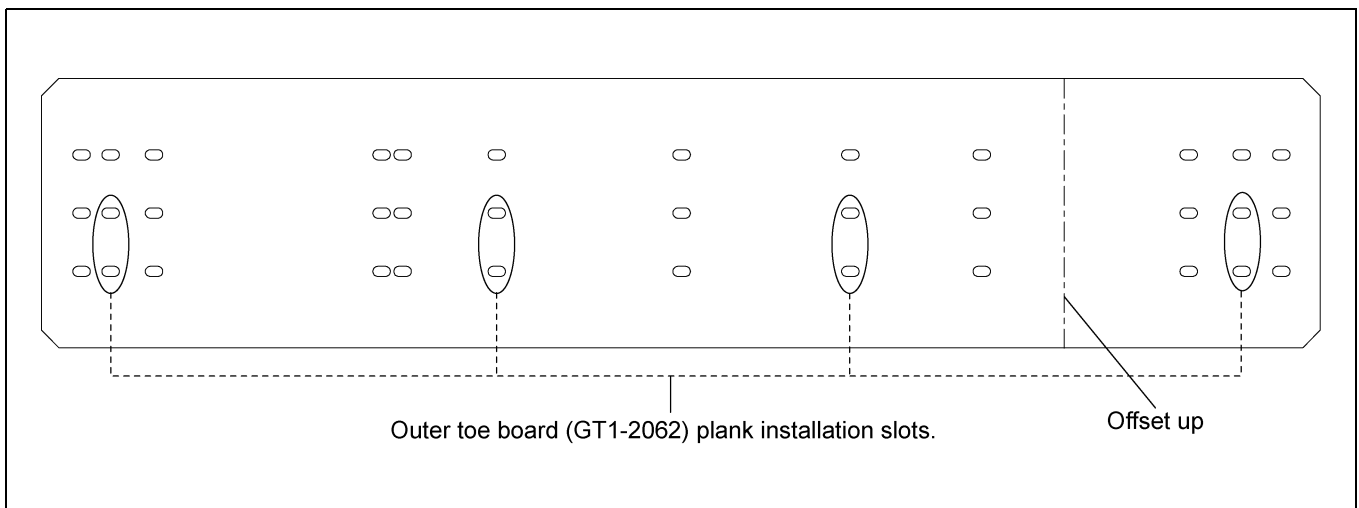

Figure 5H 18' Outer Toe Board (GT1-2062)
3. Outer toe board (GT1-2062) is arranged with many slots to install plank. Install planks to corresponding slots as shown in Figure 5H.